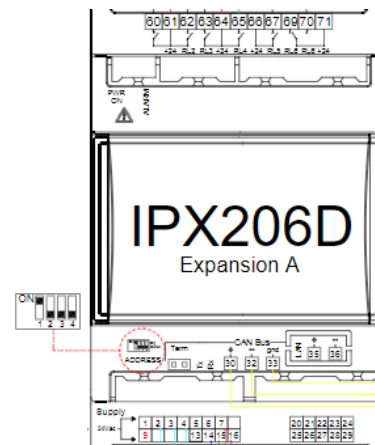

Figure 6. FLÖ i-Controller Expansion Addressing
Double-check that the Expansion Modules are addressed as 1&3. Verify the addressing and adjust as necessary on the dip switches (location called out in *Figure 6*. This figure is an example of expansion A setup).
**NOTE:** The actual switch may be white but for illustrative purposes, the switch is black in the *Figure 6* below.